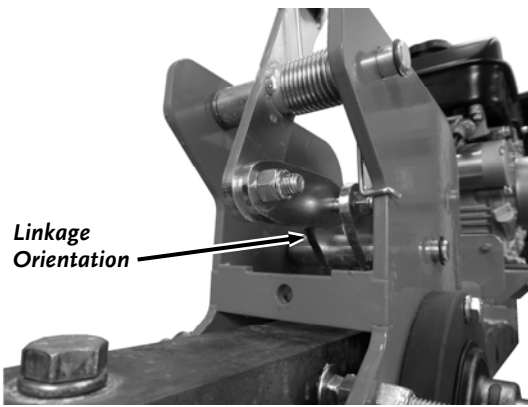

Figure 28
7. Position the linkage assembly into the Frame in the correct orientation (**Figure 28**) and install the Pivot Pins and Retaining Rings.